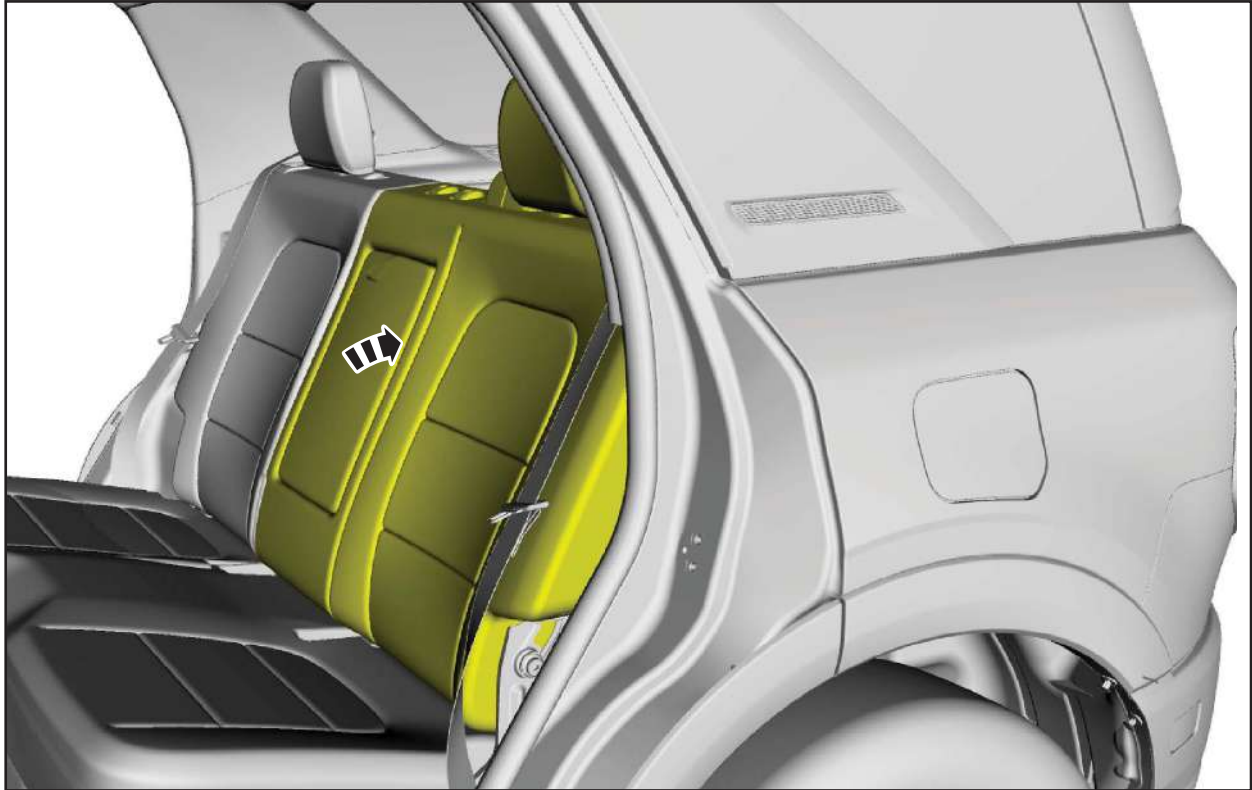

FIGURE 24
24. Position the rear seat backrest upward. See Figure 24.